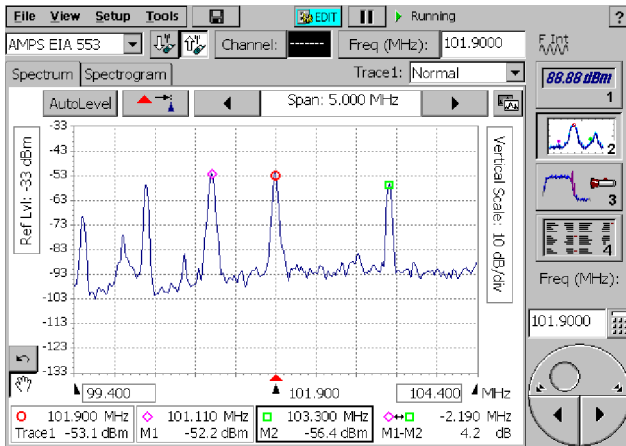

Figure 3-2: A spectrum trace with markers displayed
6. Select the Spectrum display (button 2). See Figure 3-2.